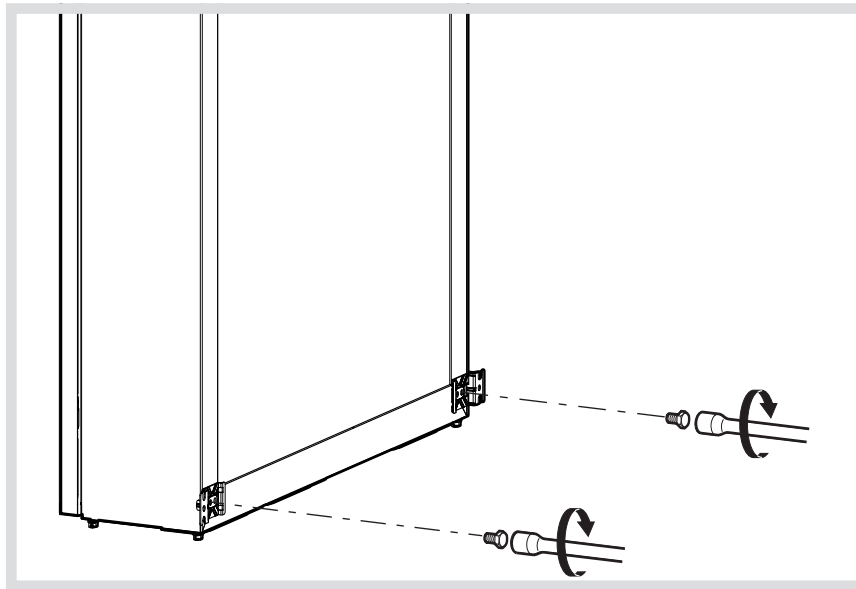

Figure 12: Assembly of mounting tabs for fixing in a sideways position
- Screw 2 mounting tabs to the bottom of the rear of the energy storage system to fix it on its side to the supporting rail (Figure 12).